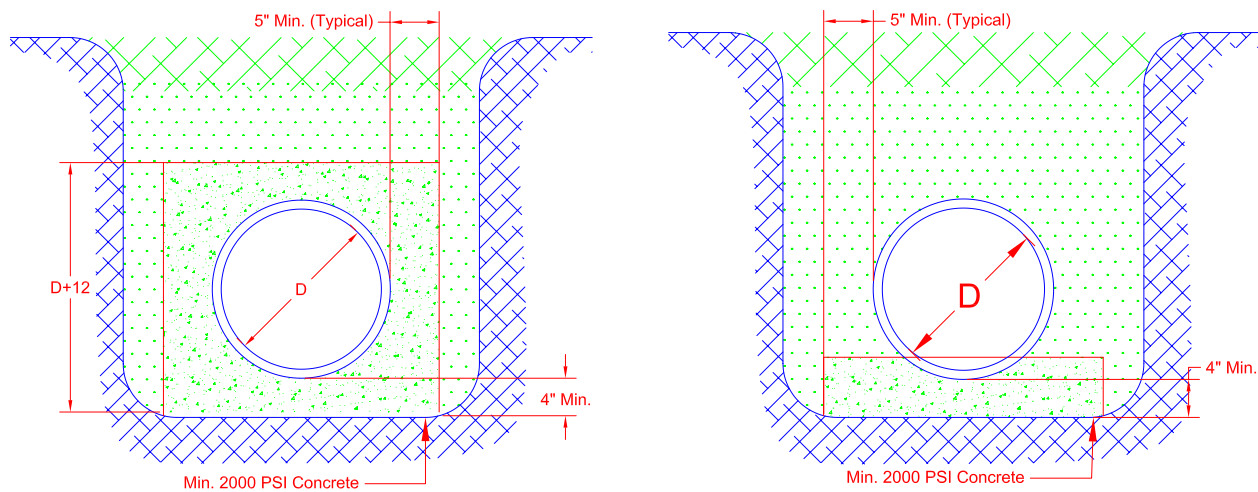

Fig. 6 – Typical Class “A” Bedding.
- D. High Water Table: Areas with permanent high water tables are usually coincident with very poor soil conditions. In most of these areas, it will be necessary to use crushed rock or pea gravel as the bedding and backfilling material. In addition, a permeable, synthetic support fabric should be used as a trench liner to prevent migration of the gravel into the native soil. In extreme cases, such as soft clay and other plastic soils, it will be necessary to use “Class A” bedding (see Fig. 6). Also, if the depth of the pipe and the depth of cover is less than one pipe depth of cover plus one pipe diameter, tie-downs or concrete encasement will be recommended in sufficient quantity to prevent flotation.